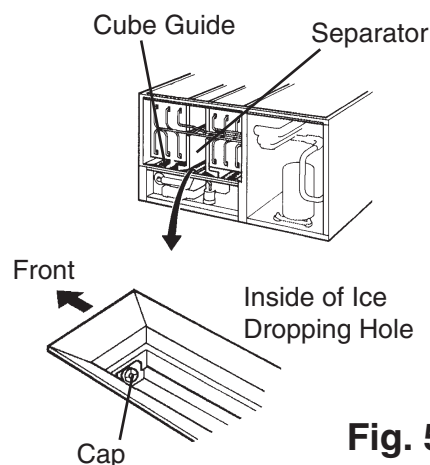

Fig. 5
- 2) Remove the insulation panel. Remove the cap located on the front bottom part of the ice dropping hole. Drain the water tank. See Fig. 5.